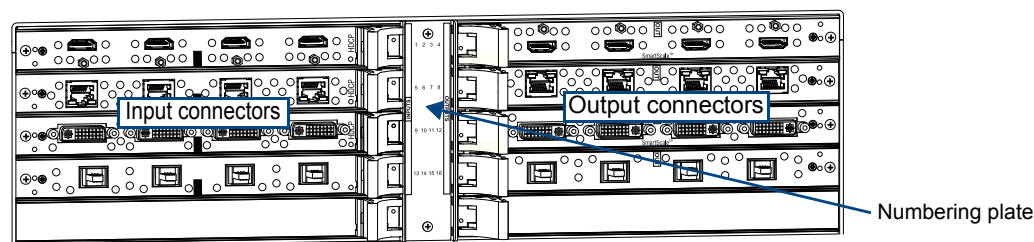

FIG. 19 Numbering on numbering plate indicate input and output board channels (Enova DGX 16 shown)
- **Enova DGX 16** – Enclosures have 8 horizontal board slots (4 slots each for the input and the output boards, with 4 connectors per board), allowing for a maximum configuration of 16x16 (FIG. 19).